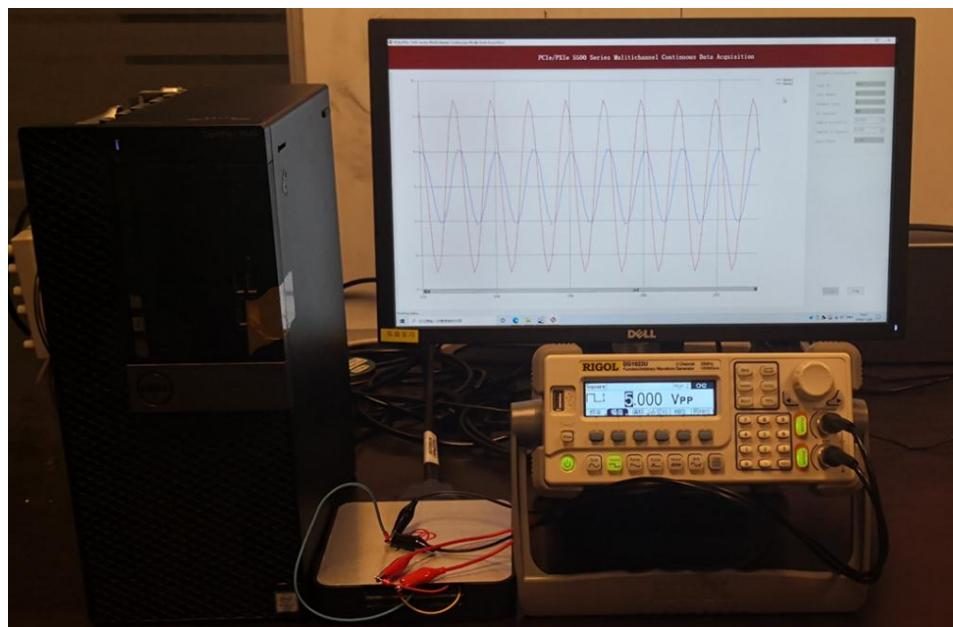

Figure 3 PCIe-5114-H7 experiment
- Connect the two signal source's positive outputs to PCIe-5114-H7 AI Ch0 (AI0+, Pin#18) and AI Ch1 (AI1+, Pin#19), two negative terminals to the ground (AI_GND, Pin#17) as shown in Figure 3 and 错误!未找到引用源。(AI0+, AI_GND) and (AI1+, AI_GND) consist of two channels of RSE inputs and they share the same GND.
- Connect the two signal source's positive outputs to PCIe-5114-H7 AI Ch0 (AI0+, Pin#18) and AI Ch1 (AI1+, Pin#19), two negative terminals to AI Ch0 negative (AI0-, Pin#52) and AI Ch1 negative (AI1-, Pin#53) as shown in Figure 3 and 错误!未找到引用源。. (AI0+, AI0-) and (AI1+, AI1-) consist of two pairs of DIFF inputs;
- Connect the signal source's positive terminal to PCIe-5114-H7 AI Ch0 (AI0+, Pin#18), the negative terminal to the ground (AI_GND, Pin#17) as shown in Figure 3 and 错误!未找到引用源。. (AI0+, AI_GND) consists of a RSE input.